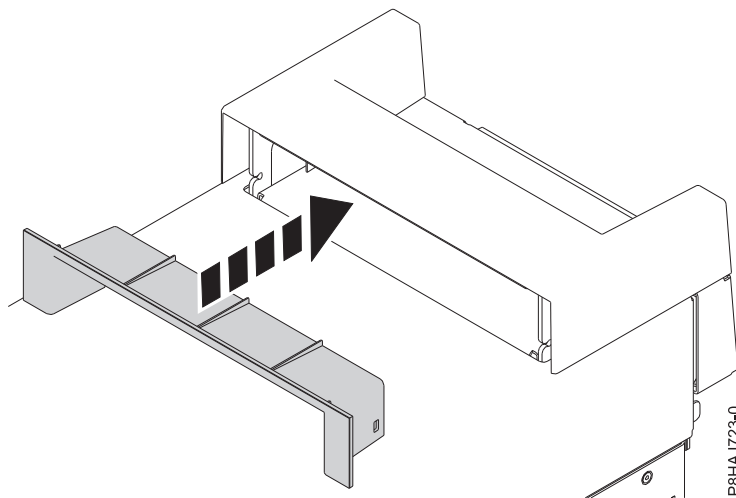

Figure 39. Inserting the piece within the handle cover on an 8286-41A stand-alone system
2. Insert the piece within the handle cover by pushing it firmly into the handle cover as shown in Figure 39.